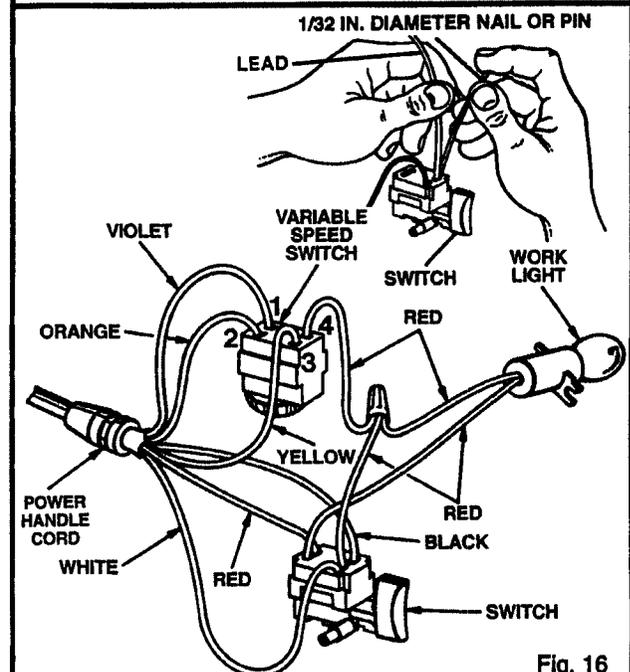

Fig. 16
- NOTE THE LOCATION OF MOLDED BEND RELIEF (C) ON POWER HANDLE CORD AND ALL WIRING IN HANDLE. ALSO NOTE HOW EACH LEAD IS CONNECTED TO SWITCH. The side of the variable speed control switch is marked with identification numbers. Connections and wiring position must be identical when installing new switch.** See Figure 16.
- Remove leads from switch (D) by inserting a 1/32 in. diameter nail or pin into switch lead receptacle and pulling on lead as shown in figure 16. Remove nail or pin with a twisting, pulling motion.
- Make sure molded bend relief (C) is correctly positioned in switch handle, then replace handle cover and screws.